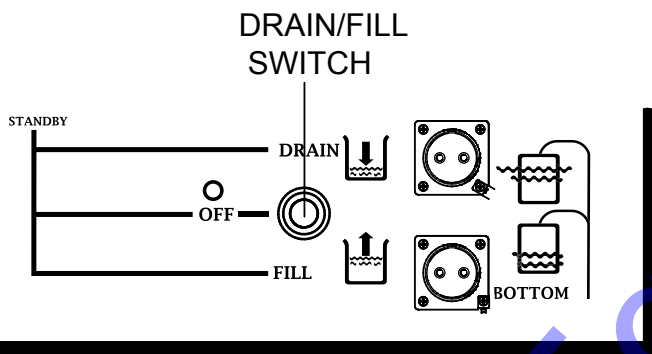

Figure 13. DRAIN/FILL Switch
1. Turn the DRAIN/FILL switch to the **OFF** position (Figure 13).
- Turn the DRAIN/FILL switch to the **DRAIN** position (Figure 13).
- Turn the DRAIN/FILL switch to the **FILL** position (Figure 13).